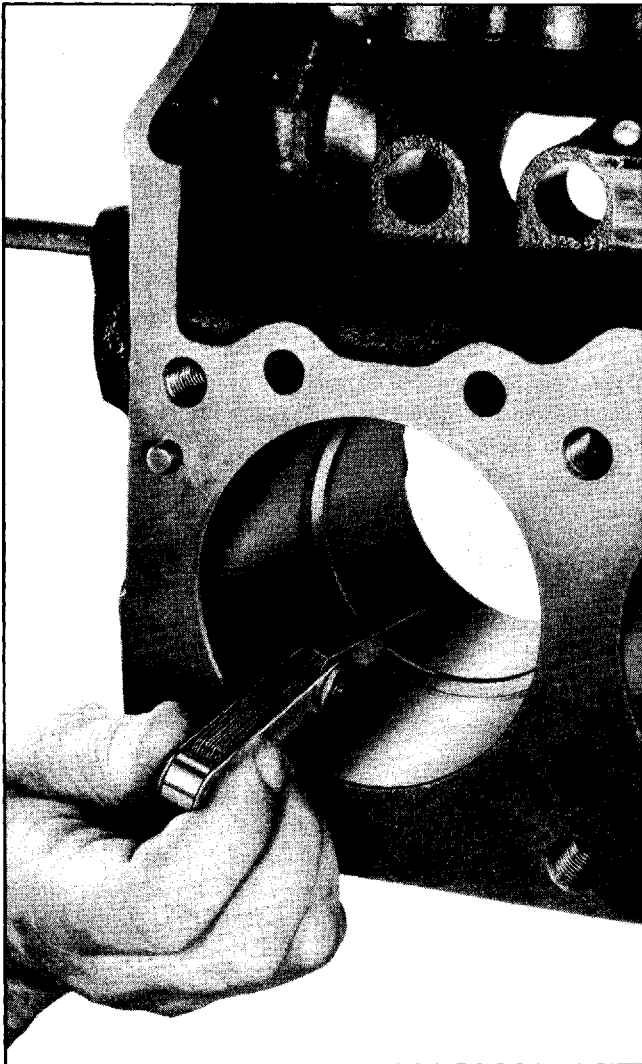

Fig. 6-67 Checking Ring Gap
3. Measure gap between ends of ring with feeler gauge (Fig. 6-67). Gaps should be as follows: